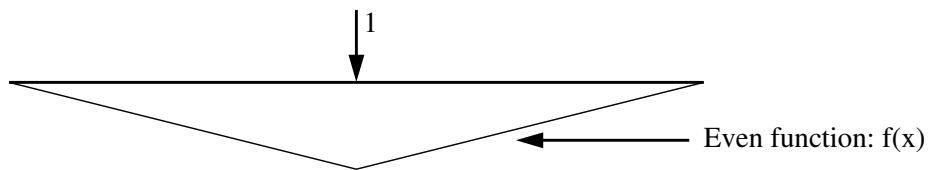

Figure 3: BMDs for real applied loads and unit virtual load.
Solution: The upper/lower sections of Figure 3 show: (1) the real BMD due to the applied loads, and (2) the BMD caused by a unit virtual load applied at B. Notice that the real BMD is an odd function and the